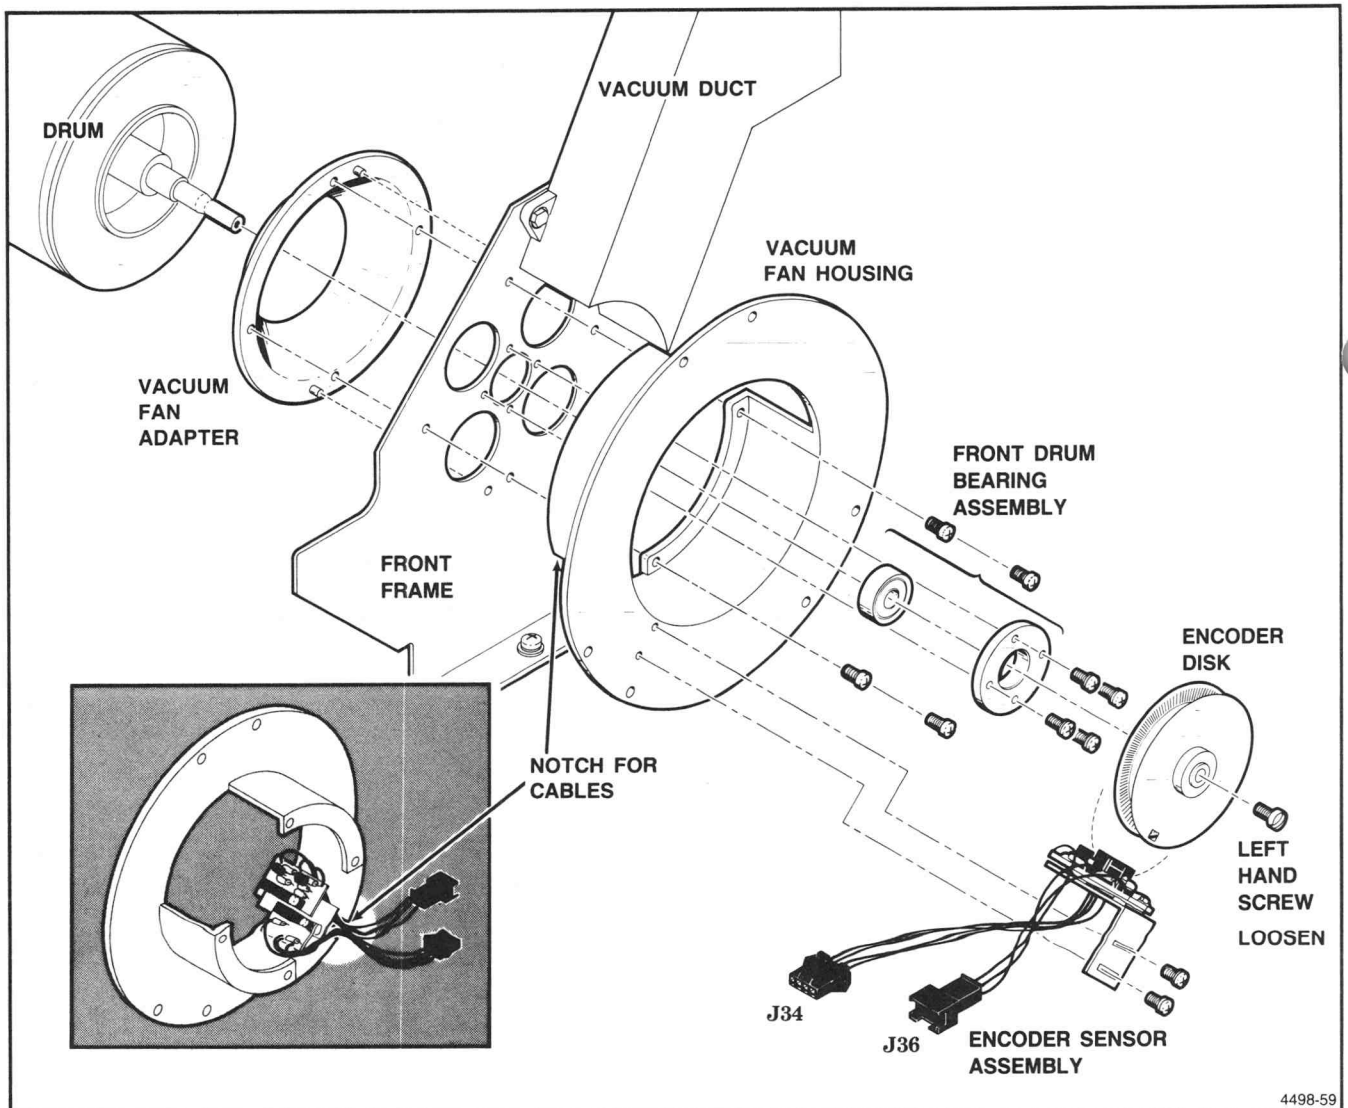

Figure 7-19. Drum Assembly Removal.
11. Disconnect connectors J34 and J36 from the encoder discs, and remove the two screws that attach the encoder plate to the vacuum fan housing. See Figure 7-19.
1. Place the vacuum flange on the front end of the drum shaft. See Figure 7-19 for the proper placement of this flange.
3. Insert the front drum shaft through the proper frame hole. Figure 7-19 shows this location.